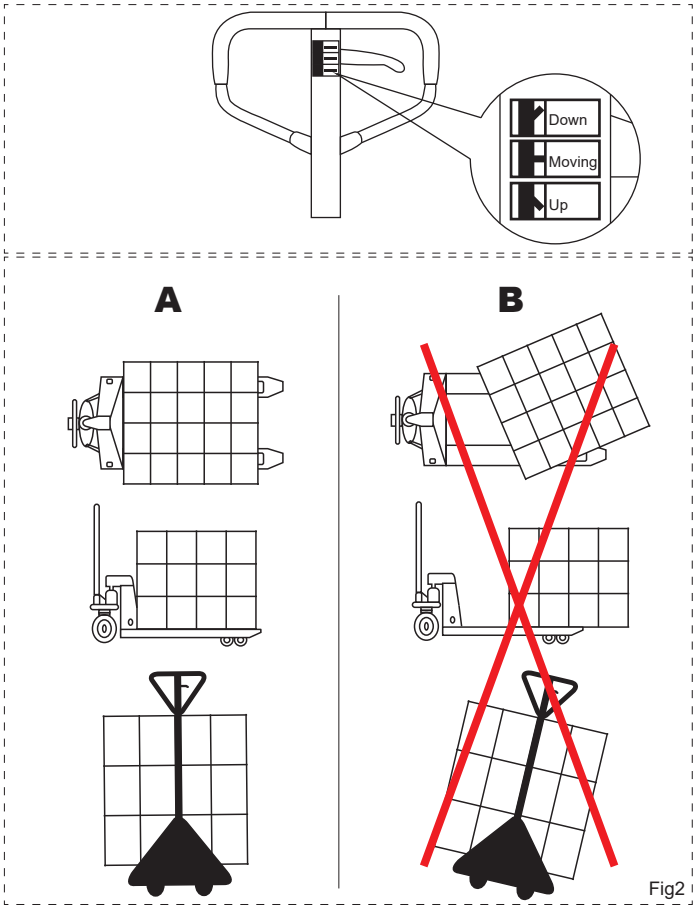

Fig2
- 8.9 Attention should be paid to the center of gravity of heavy objects to avoid eccentric load or inclination (see Fig2 B).